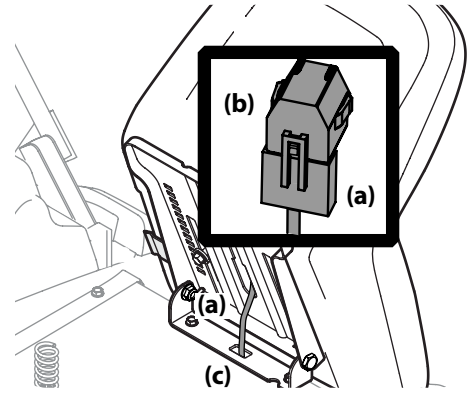

Figure 2-10
- If necessary, securely connect the seat switch wiring harness (a) to the seat switch (b) as shown in Figure 2-10. Be sure to push the excess wire from the wire harness into the seat box hole (c) before continuing.